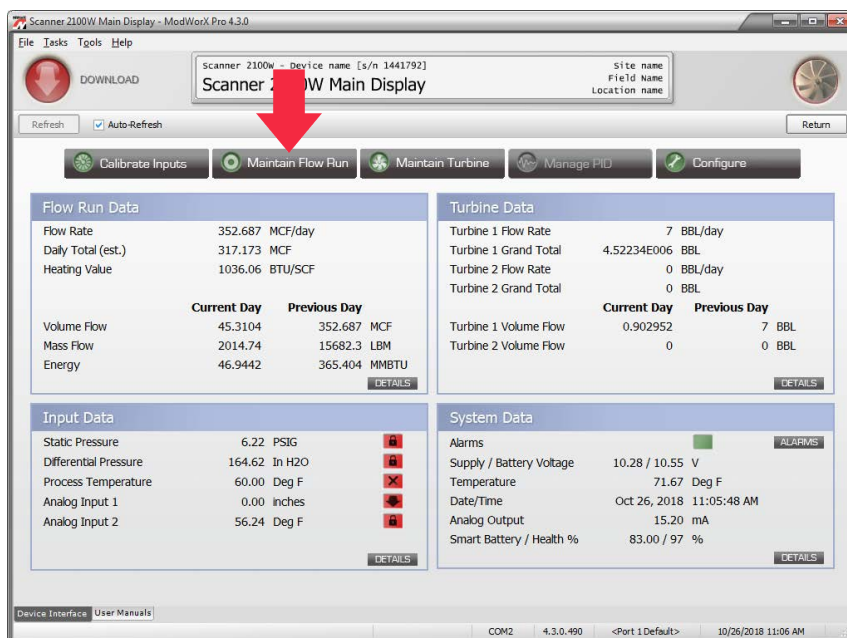

Figure 9.1
1. Click on the **Maintain Flow Run** button in the task menu bar on the Main Display screen (Figure 9.1).